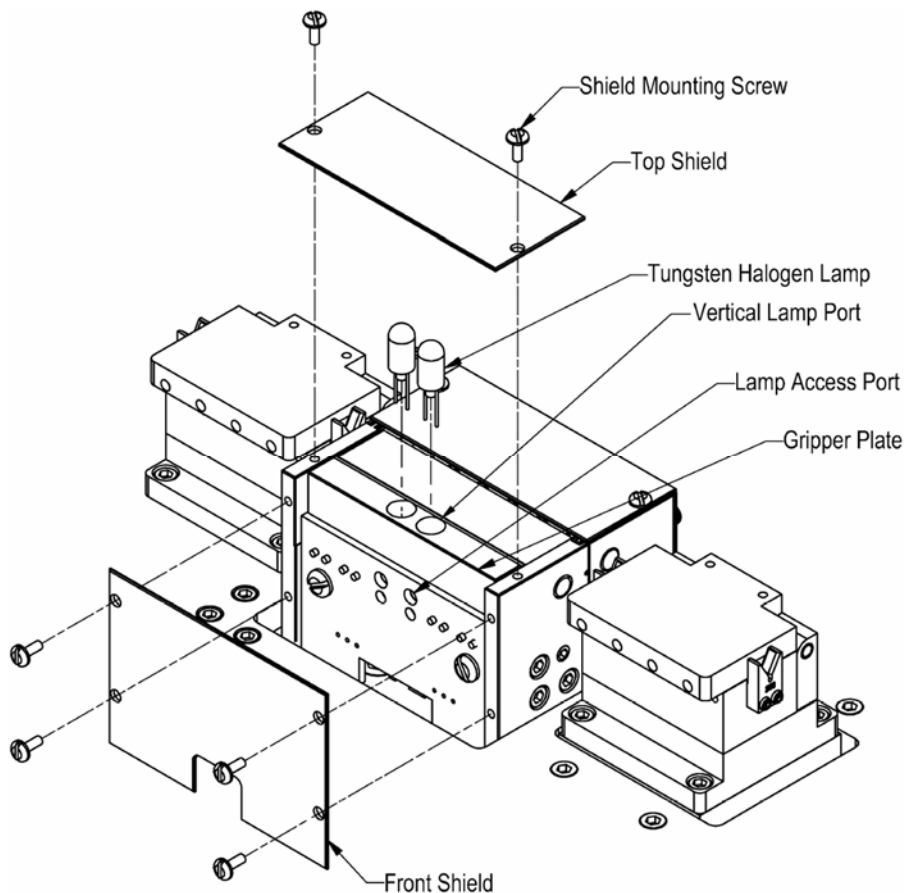

Figure 14 **Vertical Lamp Replacement**
9. Remove the two vertical lamps at the center of the front gripper plate by raising them up via the access ports in the plate. See Figure 14. A small Allen wrench is convenient for lifting the lamps high enough so they can be removed. A vacuum tube placed on top of the bulb may also aid the removal process.
10. Replace the two (2) vertical lamps by noting the orientation of the 2-pin socket at the bottom of the vertical lamp ports. Make sure the lamps are clean and that the lamp pins are straight and spaced correctly for the socket. Once the lamp is orientated correctly it can be pushed down fully into the socket. (This can be a bit challenging.) The top of the lamp should sit approximately 1/8" below the top of the gripper plate when seated properly.